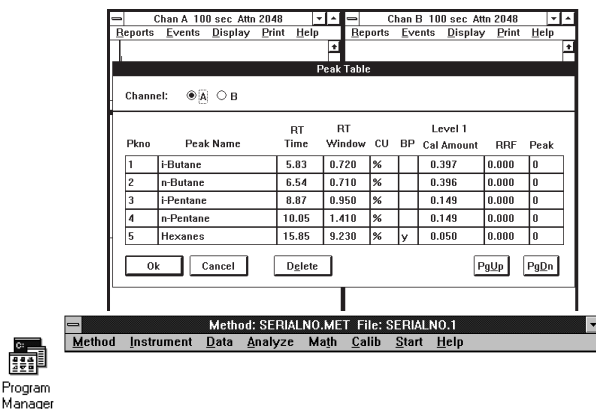

Figure 19 Peak table
- Call up the Peak Table (See Figure 19) by selecting the **Method** menu and then the **Peak Table** command.